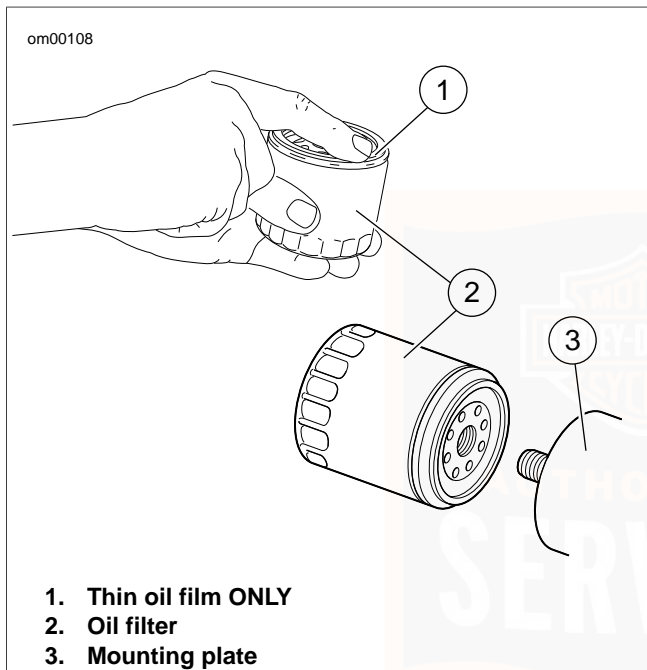

Figure 35. Applying Thin Oil Film
2. See Figure 35. Wipe filter gasket contact surface of oil filter mount with a clean cloth. Surface should be smooth and free of any debris or old gasket material.
3. Apply a thin film of oil to gasket contact surface on crankcase (3), gasket and **new** oil filter.